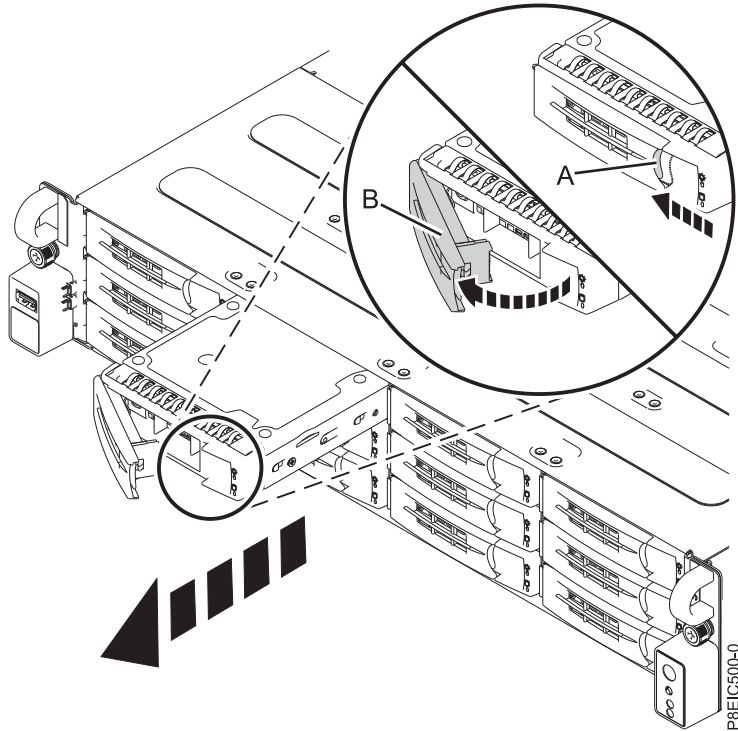

Figure 56. Removing a front drive tray
4. Unlock the drive tray handle by pushing the handle release **(A)** in the direction shown. The handle **(B)** snaps out towards you. If the handle does not snap out all the way, the drive tray does not slide out of the system, as shown in Figure 56 on page 87.